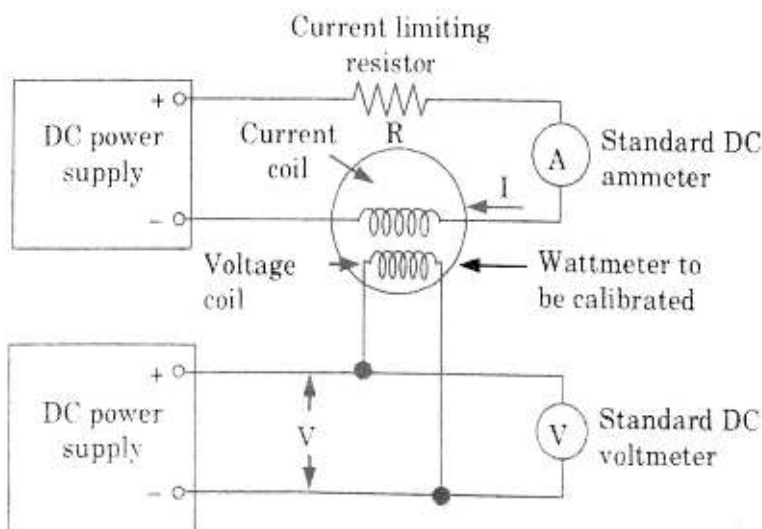

Fig. 2.22.1.
2. Fig. 2.22.1 shows a wattmeter with its current coil connected to one DC power supply and its voltage coil connected to another supply.